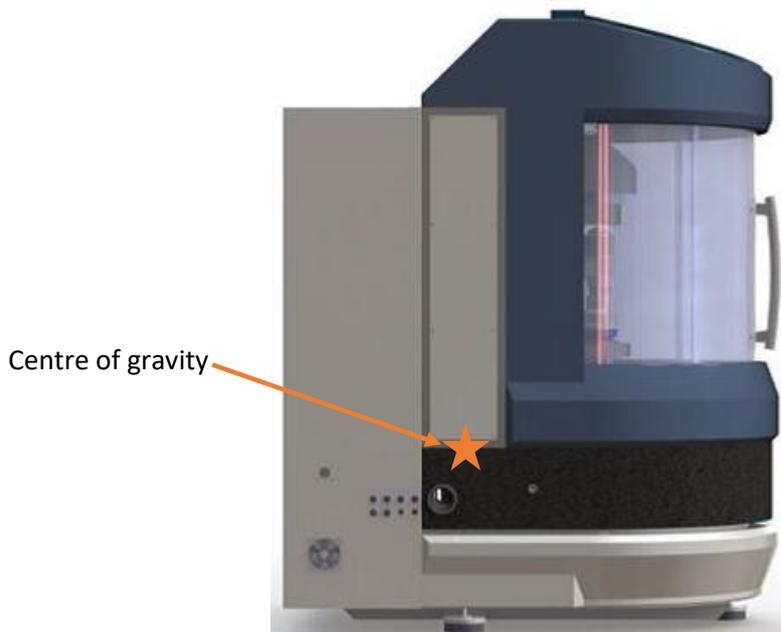

Figure 2 - Centre of gravity
- Note the centre of gravity shown in *(Figure 2 - Centre of gravity)*. Risk of Tipping Over!
**ATTENTION:** Please note the centre of gravity. See (Figure 2 - Centre of gravity).